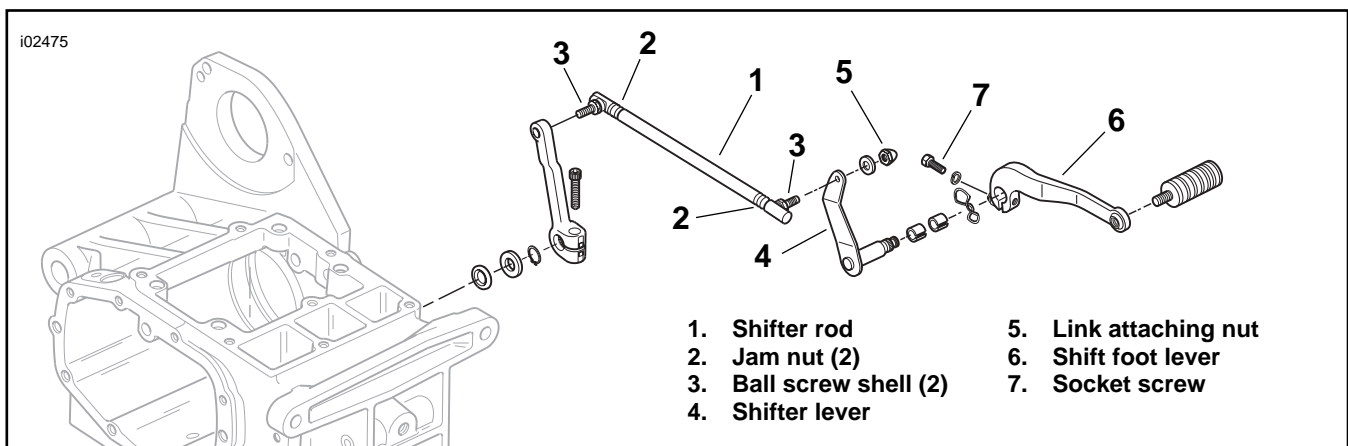

Figure 1. Stock Shifter Linkage
1. See the Service Parts illustration. Obtain an upper mounting bracket (2), lower mounting bracket (3), two 1/2-inch long screws and the Allen wrench (6) from the kit.
2. See Figure 1. Assemble the upper and lower mounting brackets onto the shaft of the ball screw shell at one end of the shifter rod (1), between the ball screw (3) and the jam nut (2) so the shaft passes above the three holes in the brackets.
4. Position the linkage cover (1) on top of the linkage and examine the fit.
5. See Figure 1 (below) and SHIFTER LINKAGE ADJUSTMENT in the Service Manual. To adjust the length of the linkage, remove the link attaching nut (5) and flat washer at the forward ball screw.
6. Loosen the jam nut (2) at the front end of the shifter rod, and remove the mounting bracket installed in Step 3. Rotate the forward ball screw shell to achieve the proper length to allow mounting of the cover.